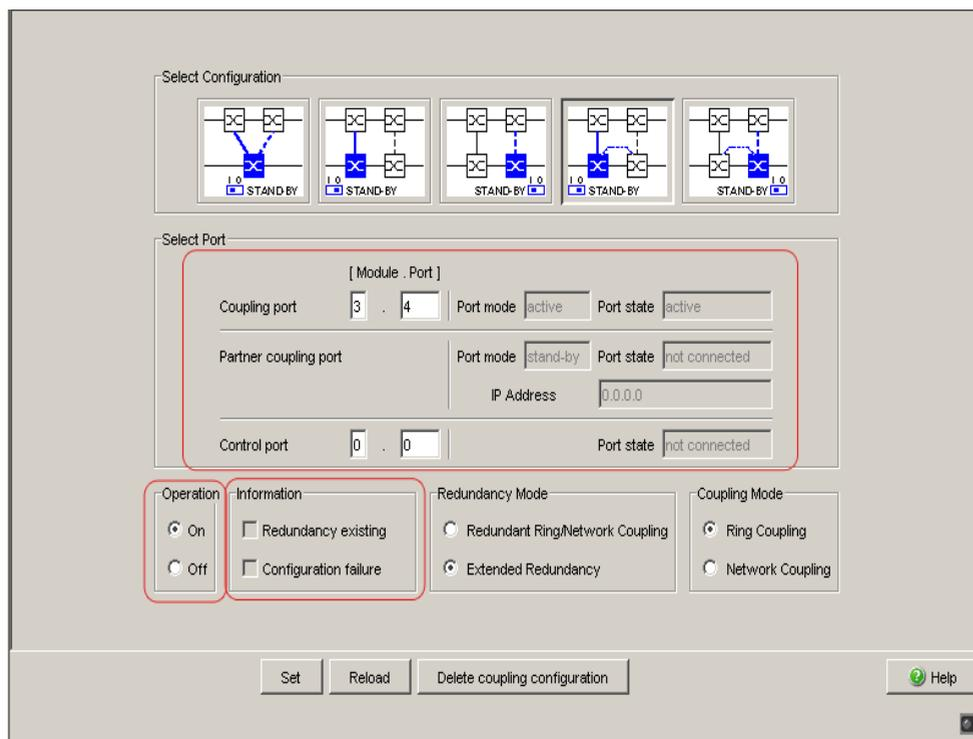

Figure 35: Selecting the port and enabling/disabling operation
- Select the coupling port (see fig. 35), (see table 13).
- Select the control port (see fig. 35), (see table 13).
- The displays in the “Select port” frame mean (see fig. 35):
The displays in the "Select port" frame mean (see fig. 35):